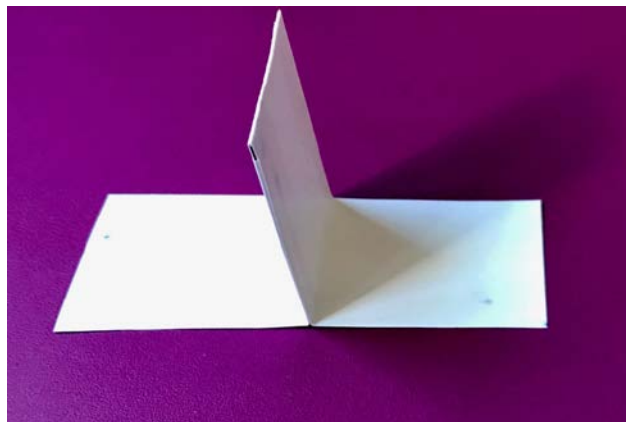

Figure 7. Tape the front and back of vertical stabilizer (the part that sticks up)
8. Tape the crease in place so that it sticks up. Let the two outer panels lay flat. See Figure 7.